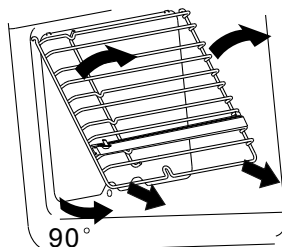

Figure 5
- Then, lift up the rack to an angle approximately 90°, and slowly pull the rack out from the oven. (Figure 5)